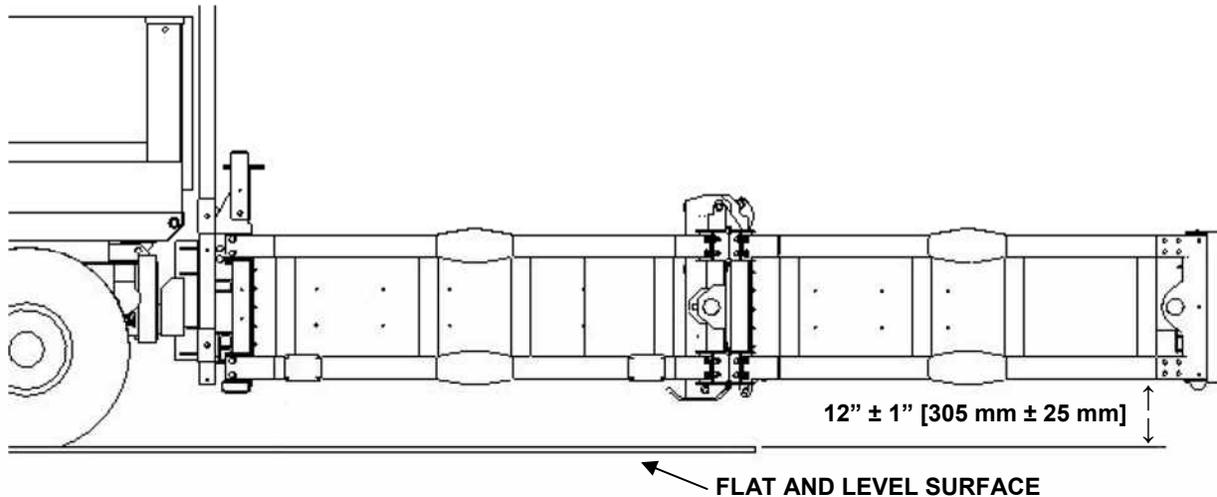

Figure 18
1. Height - The height of the system is important to its impact performance. Check regularly and adjust as necessary (Figure 18).